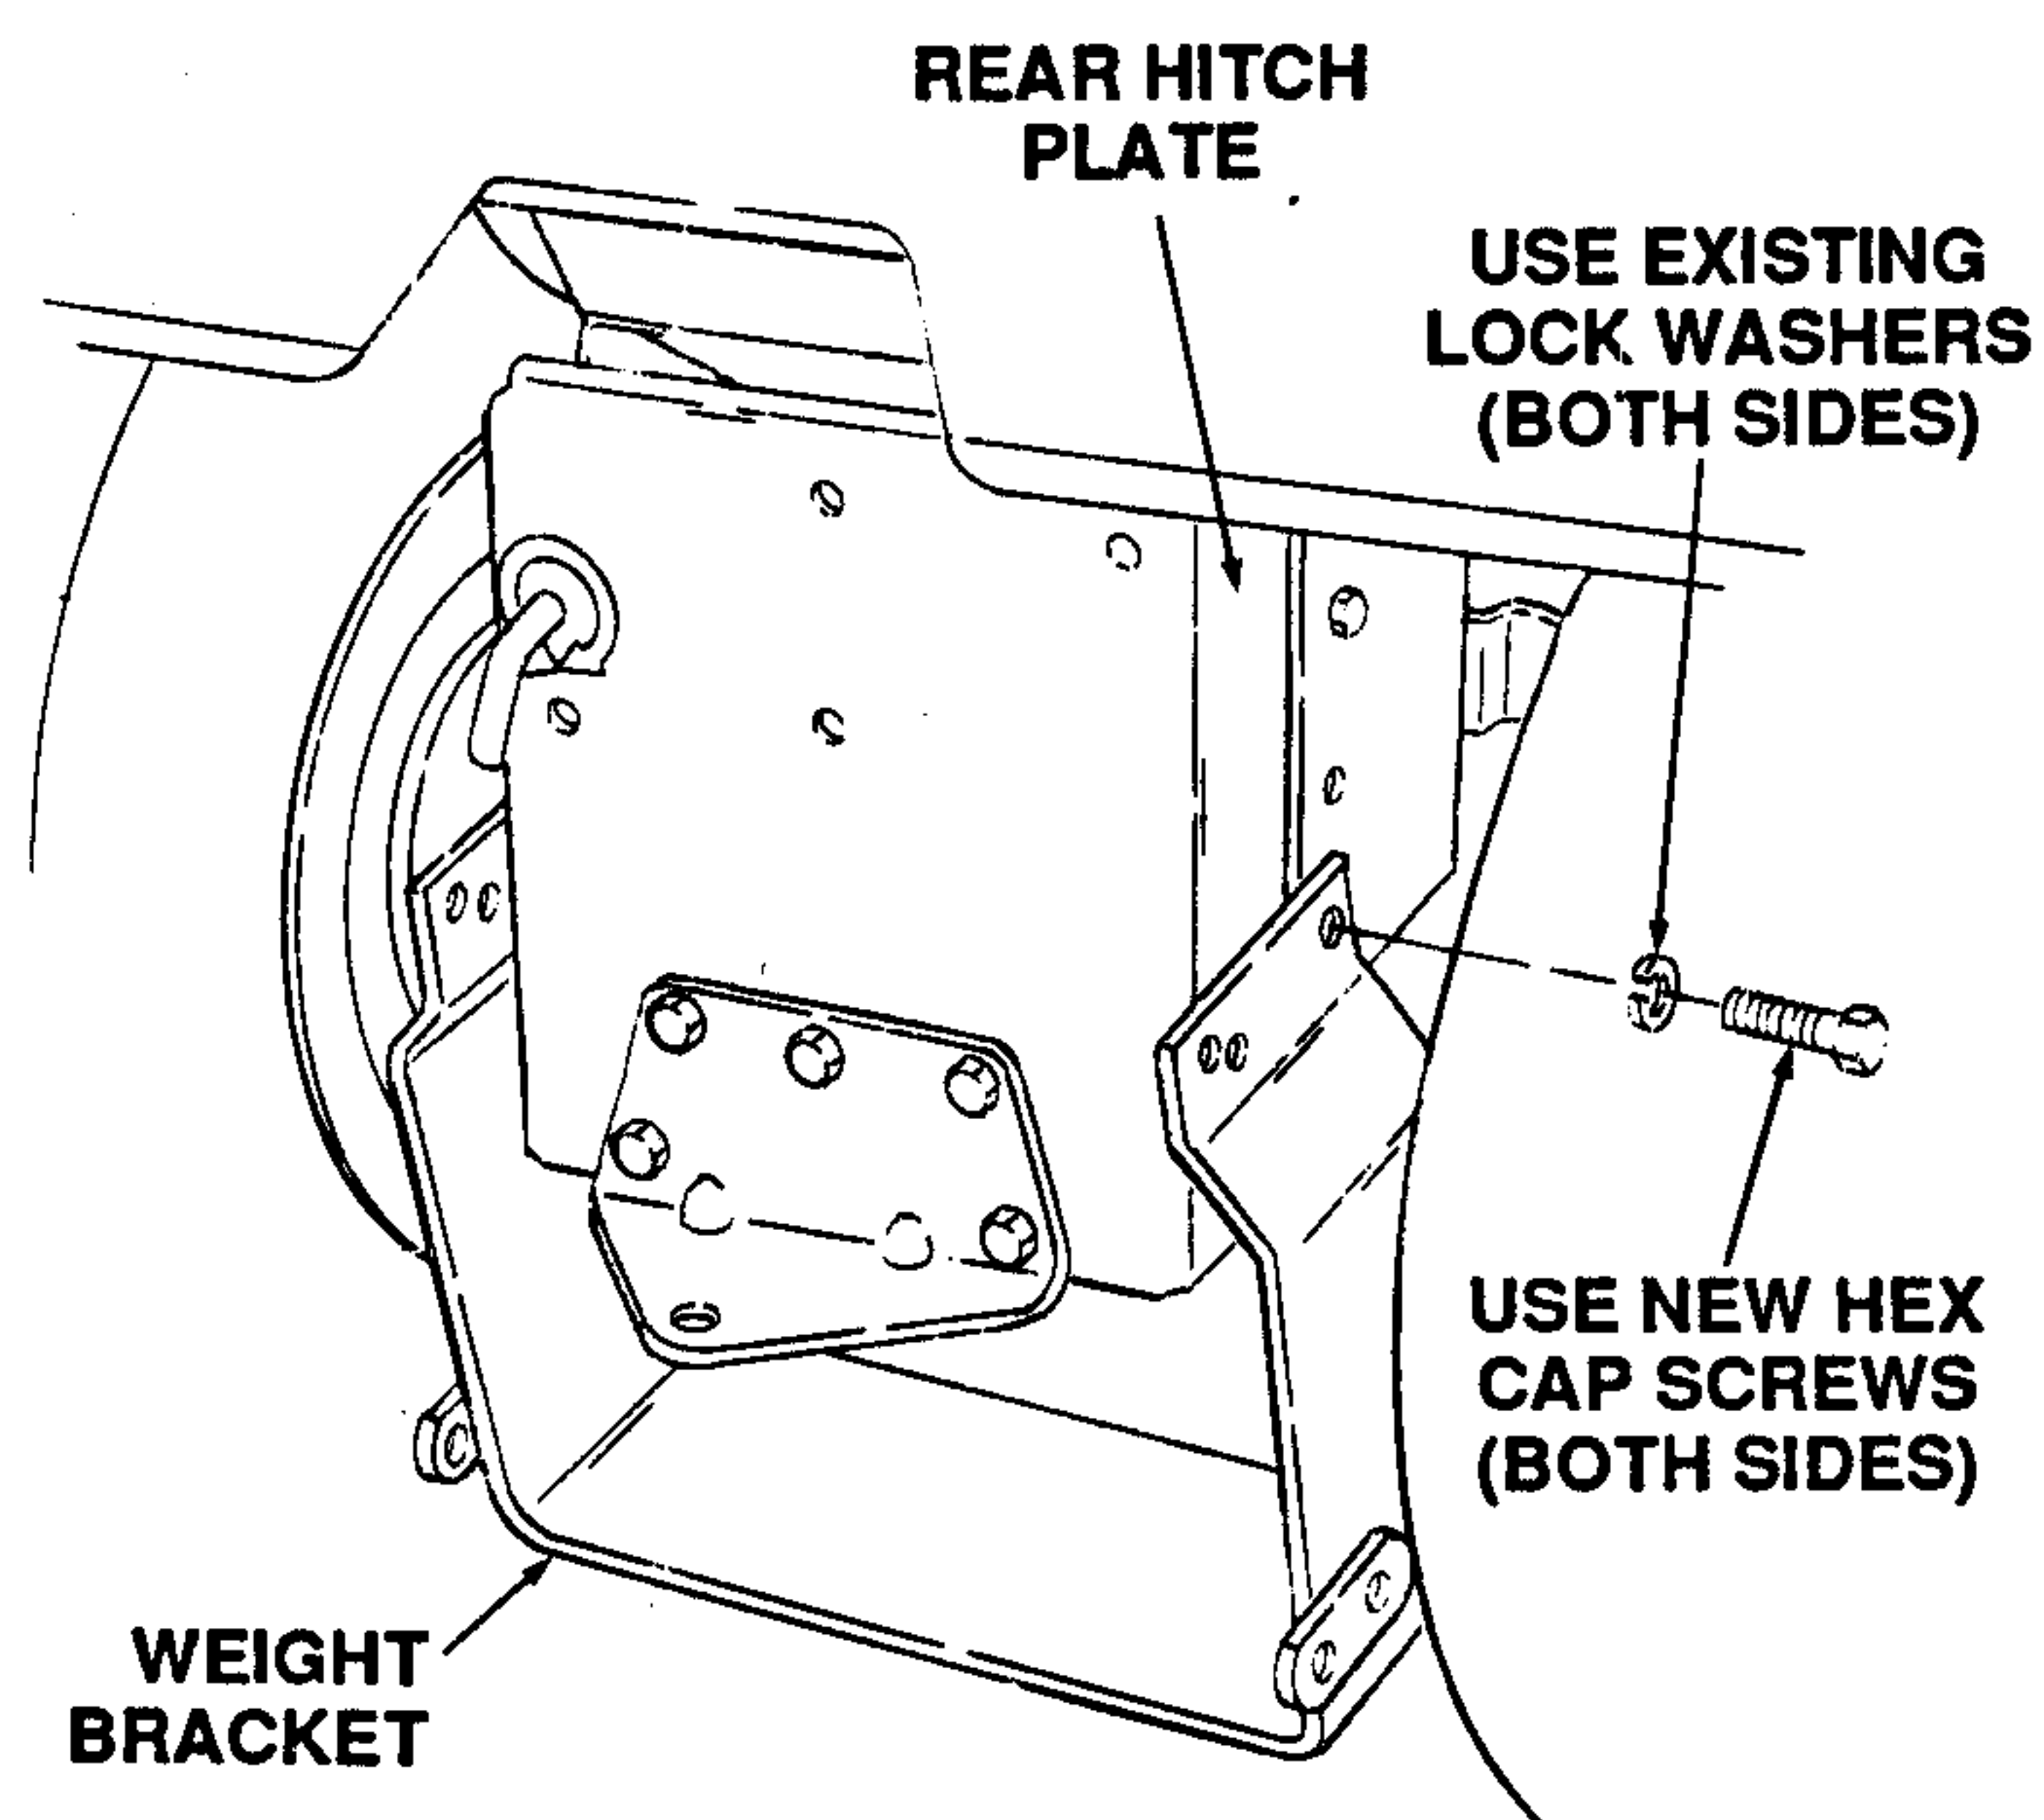

Figure 3
2. Refer to Figure 3 and remove lower hex cap screws and lock washers that mount rear hitch plate to frame. Save lock washers.